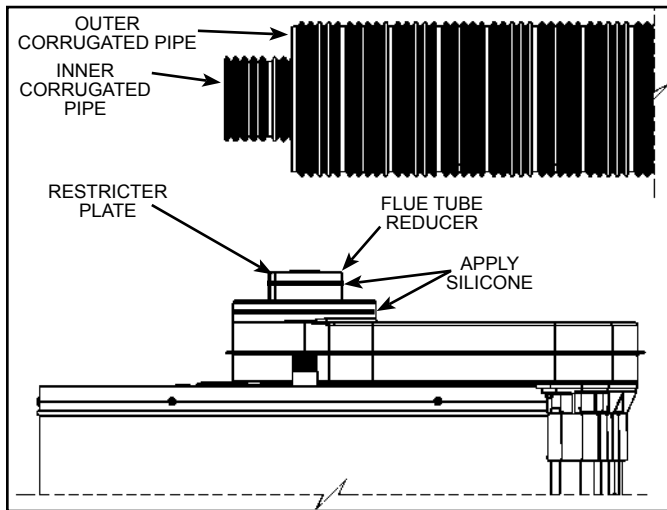

Figure 22
1. Pull the inner corrugated tube towards the water heater and leave some length over the water heater's center for bending (see Figure 22).